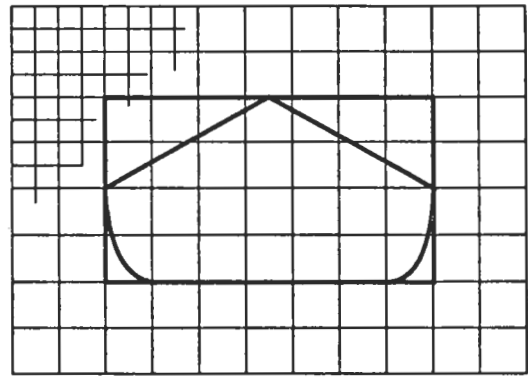

Figure 5 - Horizontal Stabilizer
5. Repeat the process for your horizontal stabilizer. (See Figure 5.)